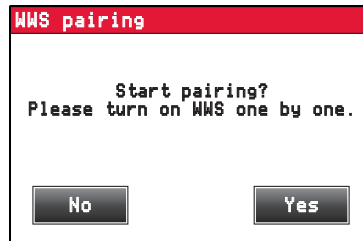

Figure 4. Start Pairing
10. Press **PAIR** to start pairing process. A prompt displays (Figure 4). Do not press anything at this time.
13. Press **Yes** in the prompt window (Figure 4 on page 3) to start the pairing process. **Connecting...** displays alongside the ID number.